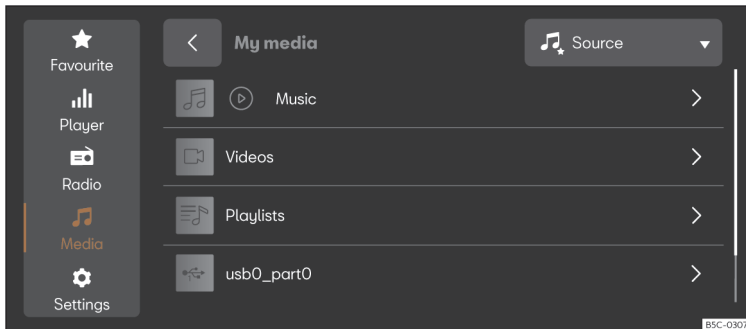

Fig. 161 Schematic representation: Media view
- Press **MENU** > > >>> **Fig. 161**.